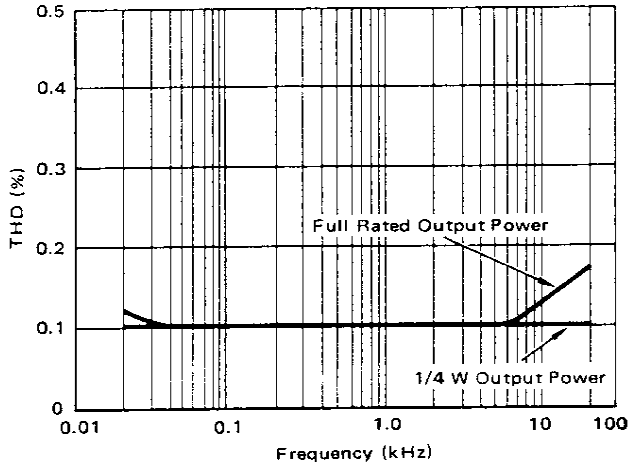

FIGURE 4 – Total Harmonic Distortion versus Frequency at 1/4 W and Full-Rated Output into Nominal Load Impedance
**Total Harmonic Distortion:** Less than 0.2% at any power level between 100 mW and full rated output and at any frequency between 20 Hz and 20 kHz. (See Figure 4)